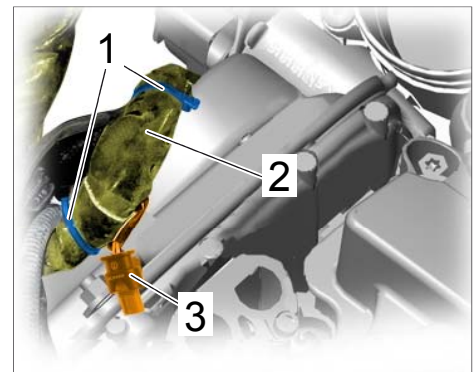

Figure 6
4.13 Secure individual wires routed next to the main wire harness ⇒ *Figure 6 -item 2-* with tie-wraps ⇒ *Figure 6 -item 1-*. Cut off the extra length at the ends of the tie-wraps with side cutters.
4.14 Route connector ⇒ *Figure 6 -item 3-* forward to the hydraulic valve for camshaft control.